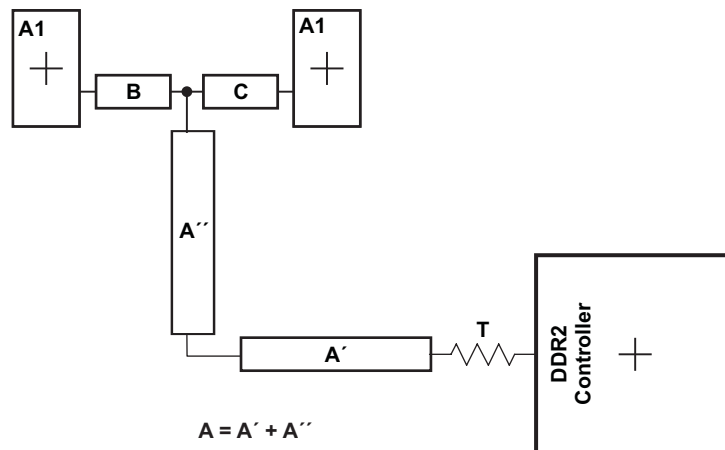

Figure 8-10. CK and ADDR_CTRL Routing and Topology
Figure 8-10 shows the topology of the routing for the CK and ADDR_CTRL net classes. The route is a balanced T as it is intended that the length of segments B and C be equal. In addition, the length of A ($A' + A''$) should be maximized.
(1) The length of segment $A = A' + A''$ as shown in Figure 8-10.
(2) Center-to-center spacing is allowed to fall to minimum (w) for up to 500 mils of routed length to accommodate BGA escape and routing congestion.
(3) CACLM is the longest Manhattan distance of the CK and ADDR_CTRL net classes.